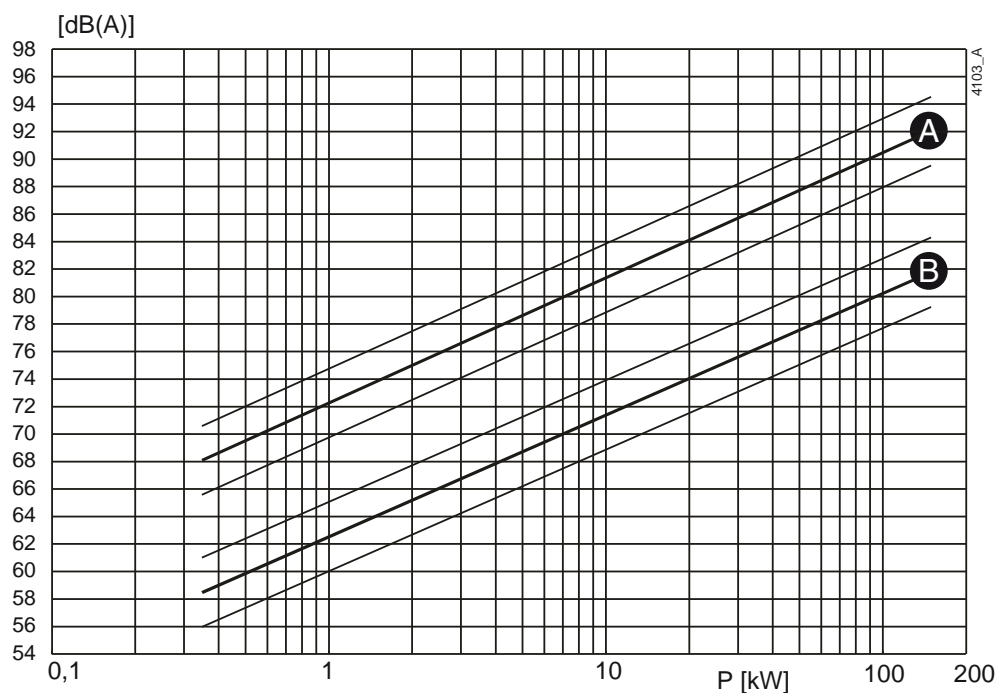
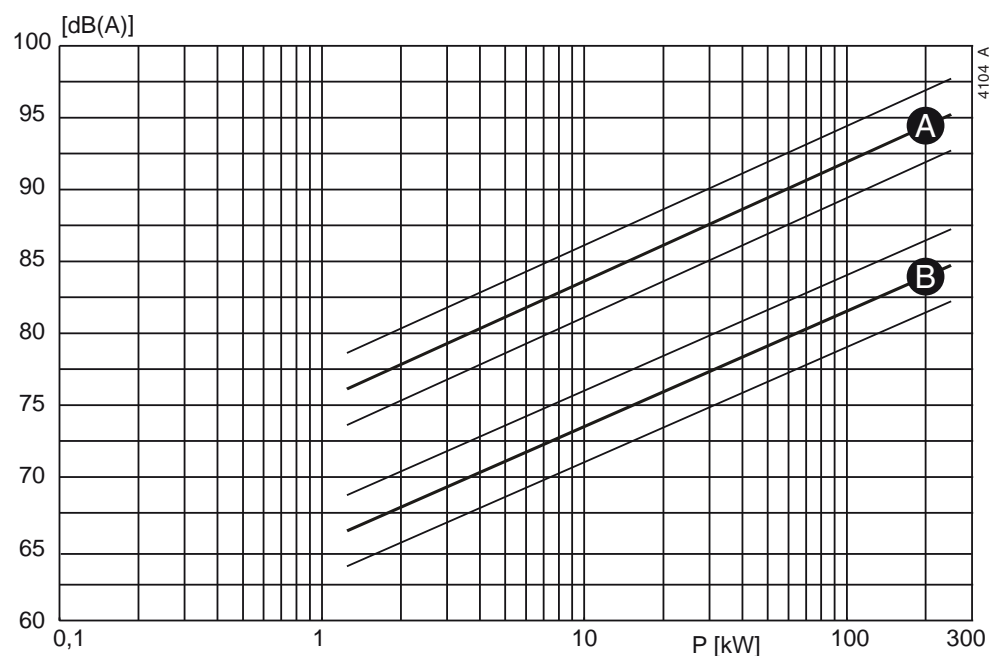

Figure 20: Noise level as function of pump power [kW] at  $1450 \text{ min}^{-1}$
Figure 21: Noise level as function of pump power [kW] at  $2900 \text{ min}^{-1}$
- 1 Determine the noise level ( $L_1$ ) of the pump, see figure 20 or figure 21.